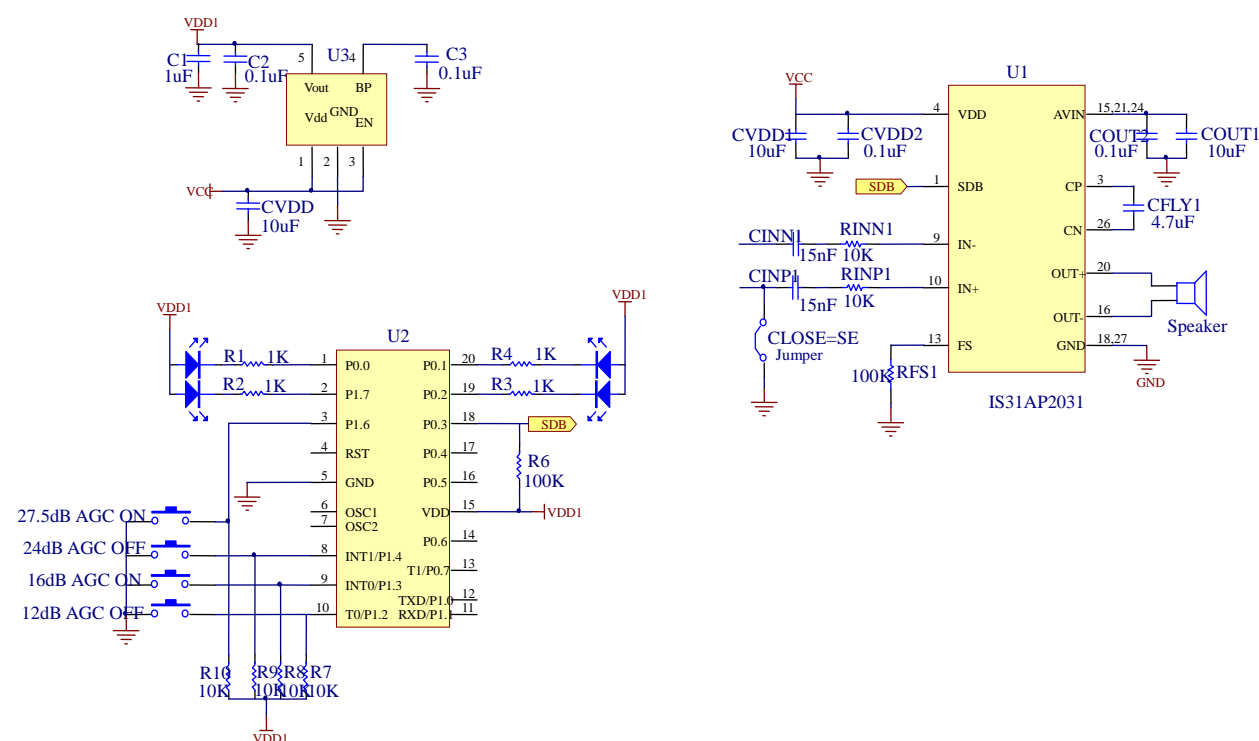

Figure 2: IS31AP2031 Evaluation Board Circuit Schematic
The input resistance ( $R_{INN1}$ ) and input capacitance ( $C_{INN1}$ ), as seen in Figure 2's Schematic, constitute a high-pass filter with a specific cut-off frequency, denoted by " $f_c$ ". For modes A and B, the cut-off frequency is determined by solving equation (1).